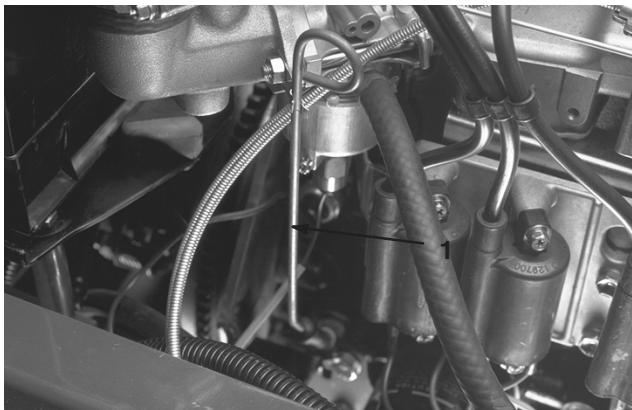

Figure 13
2. Remove the dipstick (Fig. 13), wipe it clean and reinstall the dipstick. Remove the dipstick and check the oil level. The oil level should be up to the FULL mark on the dipstick